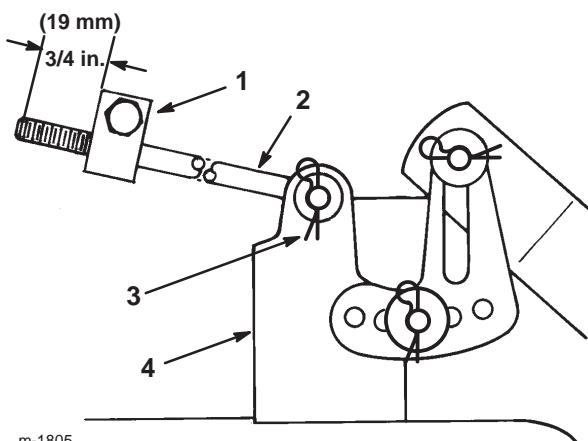

Figure 45
11. Measure the length of the rod extending out of the front of the adjusting block on the sides of the chassis (Fig. 45). If the rod length is not $3/4$ in. (19 mm), remove the hairpin cotter and washer from the end of the rod (Fig. 45) and turn the rod until it extends out $3/4$ in. (19 mm).